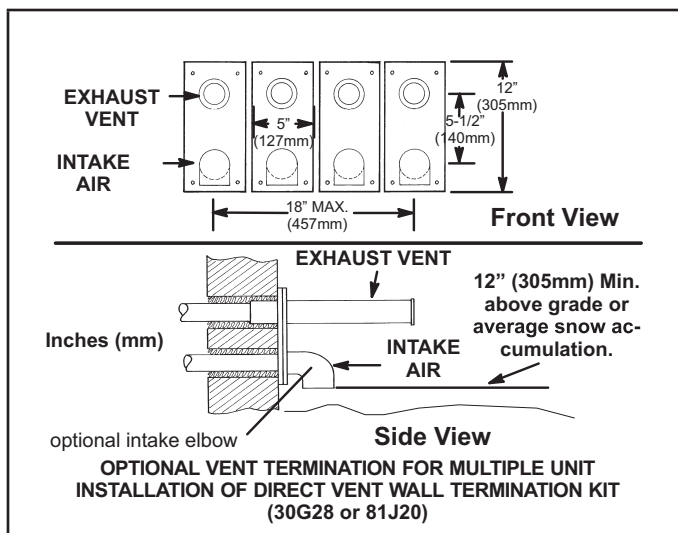

FIGURE 37
- 8 - Based on the recommendation of the manufacturer, a multiple furnace installation may use a group of up to four terminations assembled together horizontally, as shown in FIGURE 37.